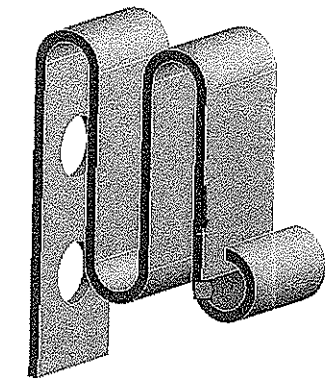

Figure 9-49 Selecting the edge to specify the direction
- Select any vertical edge on the model, as shown in Figure 9-49, to specify the direction of force application.